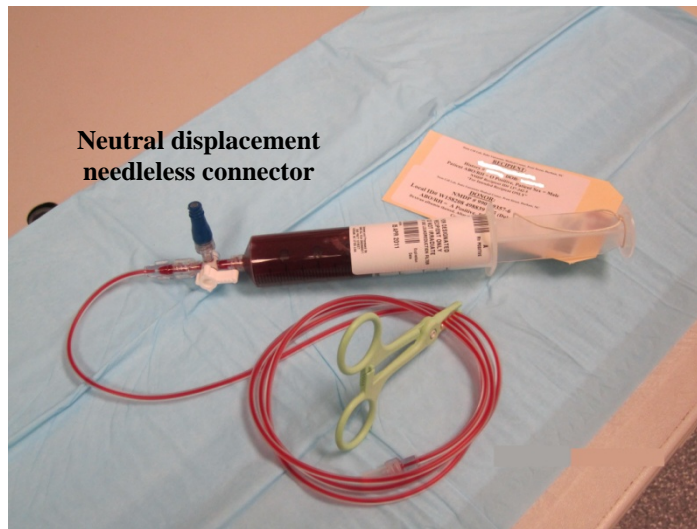

Figure 15
- i. Detach the 60 mL syringe containing the cellular product and attach it to the lipid compatible 3-way stopcock clamp, the neutral displacement needleless connector, and the 60 inch, 2.4 mL extension set tubing (see Figure 15).